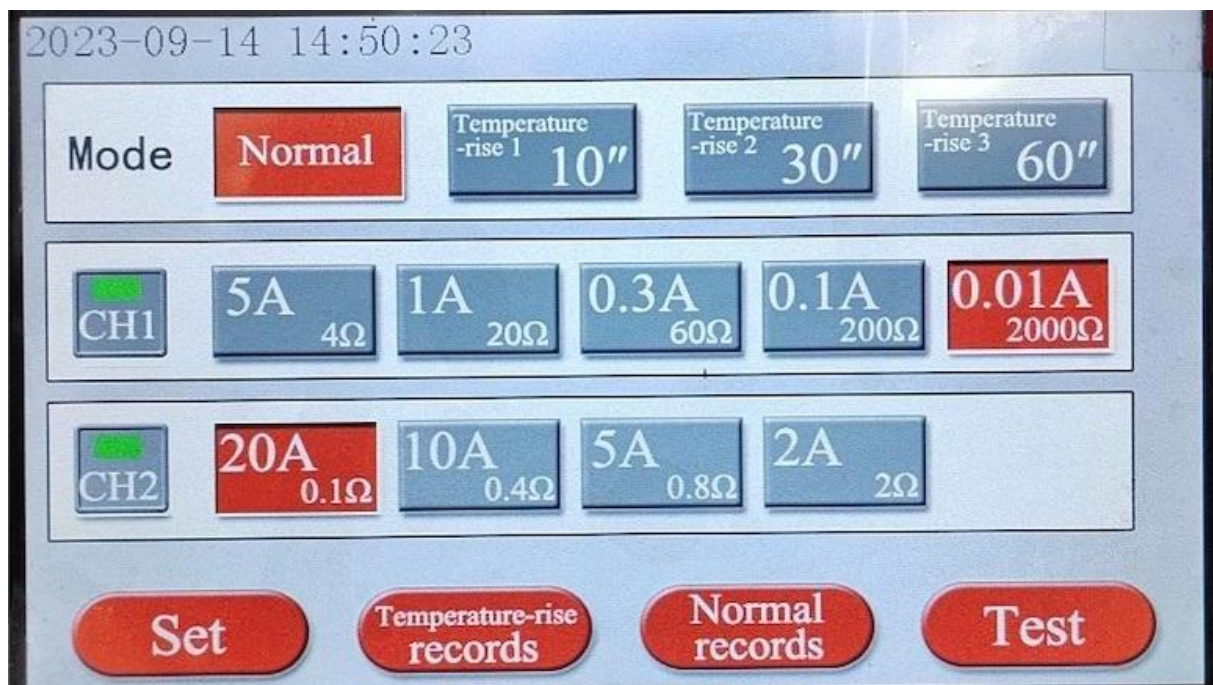
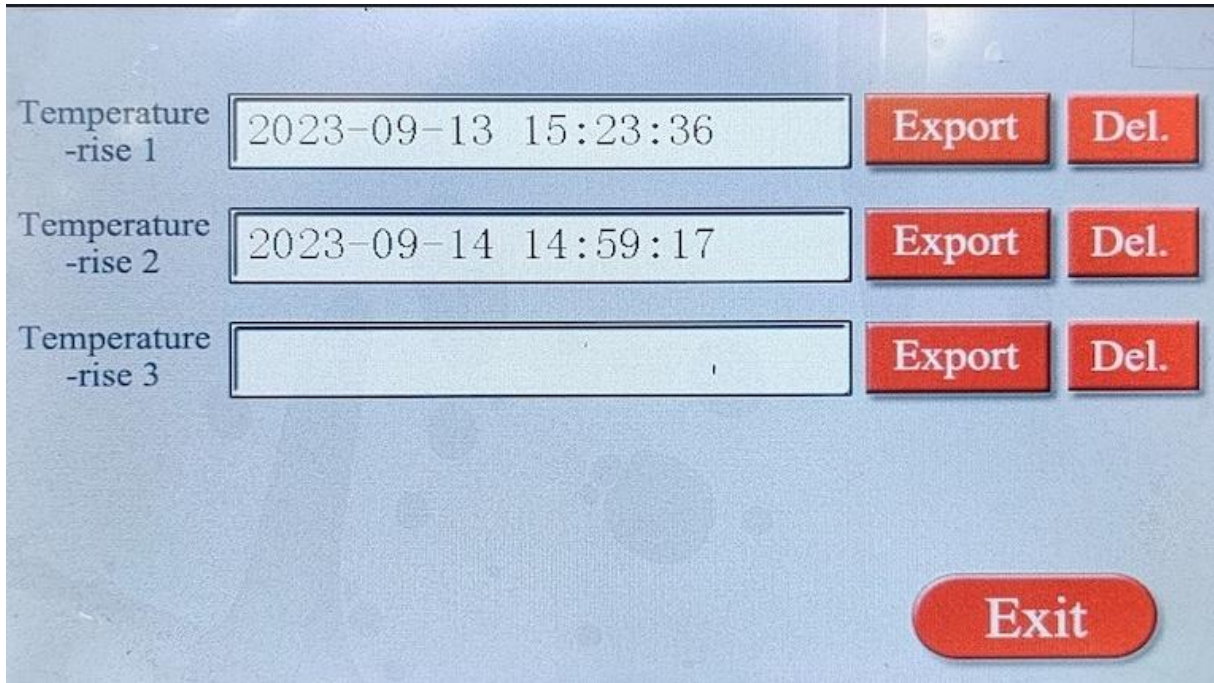
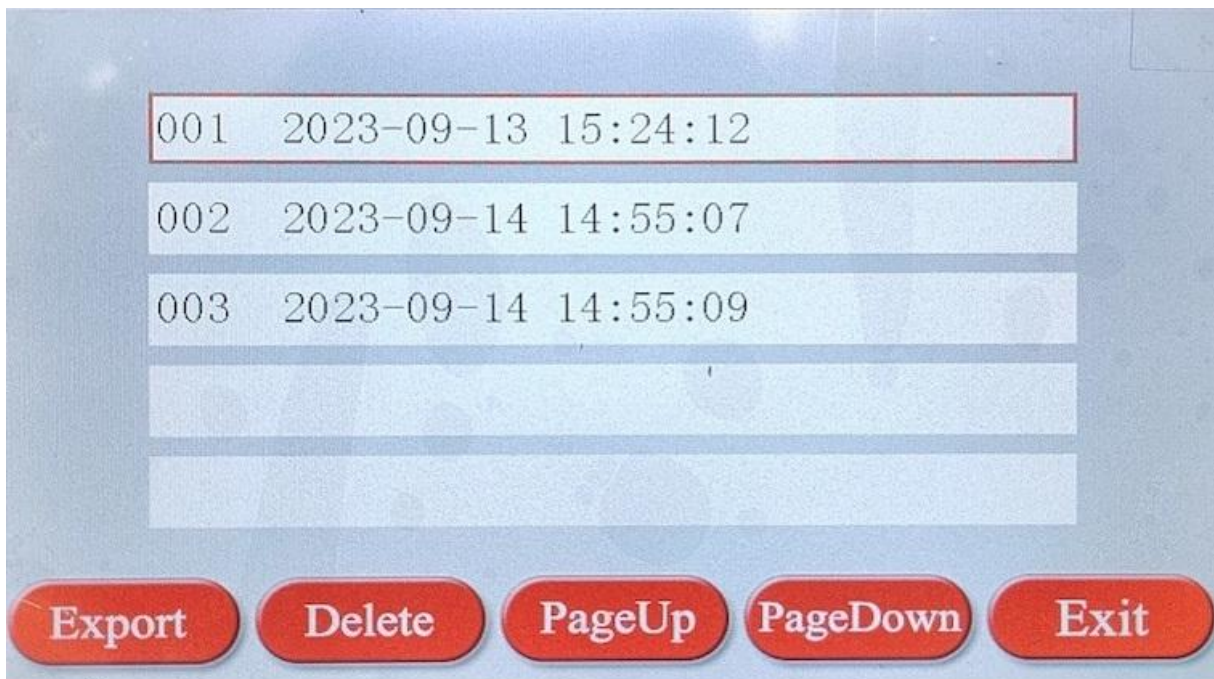

Figure 5 (selection setting interface)
Figure 12 (Temperature rising Records interface)
Figure 13 (Conventional records interface)
2. **Selection setting:** Switch on the power supply switch, the “Kingrun instrument” interface will be displayed on the display screen, then automatically skip to selection setting main interface as figure 5 after approximate 3 seconds.
Mode selection: The interface shown as figure 5 is displayed on the display screen, now carry out selection through touching and controlling the corresponding mode selection phase, the red point is lit after it is selected. Selected temperature rise mode “Testing” key is changed to “Timing” key.
Selection of CH1 channel: The interface shown as figure 5 is displayed on the display screen. Now select the CH1 channel or close the CH1 channel through touching and controlling the corresponding CH1 push button. Select the CH1 channel, the indication lamp is lit green, now corresponding current phase selection is selected and lit on. The indication lamp for closing CH1 channel is black, now corresponding current phase selection is closed
Selection of CH2 channel: The interface shown as figure 5 is displayed on the display screen. Now select the CH2 channel or close the CH2 channel through touching and controlling the corresponding CH2 push button. Select the CH2 channel, the indication lamp is lit green, now corresponding current phase selection is selected and lit on. The indication lamp for closing CH2 channel is black, now corresponding current phase selection is closed completely. The CH2 channel is prohibited to use.
Current selection: The interface shown as figure 5 is displayed on the display screen, now select output current of the tested product through touching and controlling. Please refer to corresponding measurement scope to select suitable current. Resistance value following current value is maximum measurement resistance of selected current shift.
“Exit” function key, Touch the “Exit” key, conventional testing will be complete. The instrument outputs current and disconnects with the winding, and it will be discharged at same time, and sound alarm is displayed as figure ten. After discharging is complete, the display screen returns back to selection setting interface (figure 5), and connect the wires again. Carry out next measurement or remove the testing wire and the power supply wire, measurement is complete.
Touch and control the “Setting” function key on the interface shown in figure 5, and enter into time input interface
Modify time or Temperature rising timing interval at corresponding position according to corresponding upward and downward arrows. After modification is complete, touch the “Exit” function key, and return back to initial status shown as figure 5. The system will run as modified time.
Touch the “Temp Rising Record” function key on the interface shown in figure 5, and review the temperature rising record interface as shown in figure 12.
Temperature rise data can be saved 3 sets. Touch the catalogue time to review corresponding data. Touch page up and page down keys to review, touch and control the “Exit” key and return back to figure 12 to select review interface.
Touch the Exit function key and return back to the setting interface shown as figure 5.
Touch the "**Conventional Record**" function key under the interface shown in Figure 5 to review temperature rise directory as shown in Figure 13. 100 sets of regular data are saved. Touch the directory time, the record will be selected in the red box. Touch again to view the corresponding data. When a record is selected in the red box, touch the "**DEL**" function key, and this data will be deleted.
The touch "**Exit**" function key returns to the settings interface as shown in Figure 5.